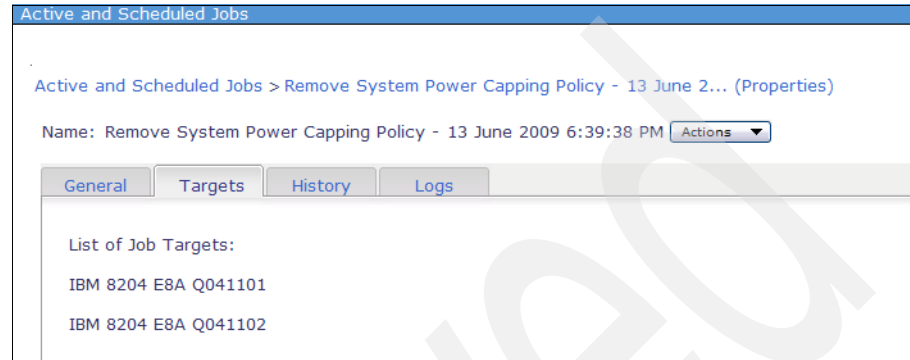

Figure 7-73 Removing a policy - 5
- b. You see the display shown in Figure 7-73. You can browse the four tabs just as you would for a policy apply.